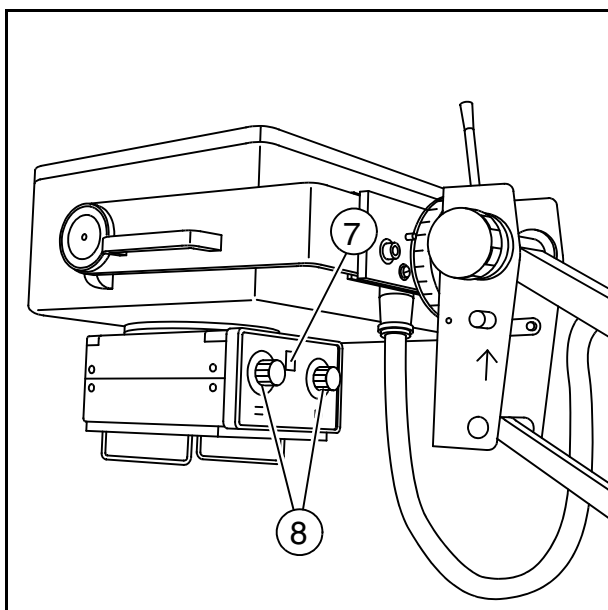
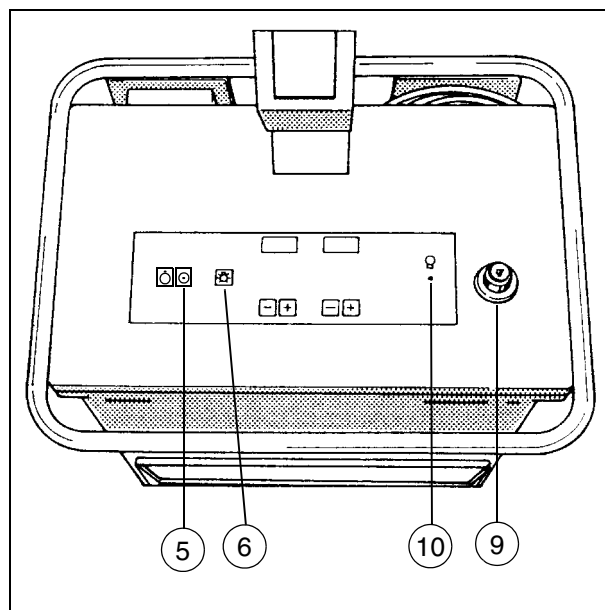

Fig. 3
Fig. 4
- Press the ON button on the control console  (5/Fig. 4).
To do this press the button  (6/Fig. 4 or 7/Fig. 3); the light localizer lamp lights up for $20\text{ s} \pm 1\text{ s}$.
- By turning the diaphragm setting knobs (8/Fig. 3) check the easy movement and uniformity of the format setting (leaf pairs).
- Pull out the exposure release switch (9/Fig. 4) completely.
The radiation indicator (10/Fig. 4) lights up for the duration of the exposure, an acoustic signal sounds at the same time.
- Check that the cable of the exposure release switch (9/Fig. 4) rolls back in without difficulty after it is pulled out.
To do this: Release exposure. The radiation indicator (10/Fig. 4) lights up.